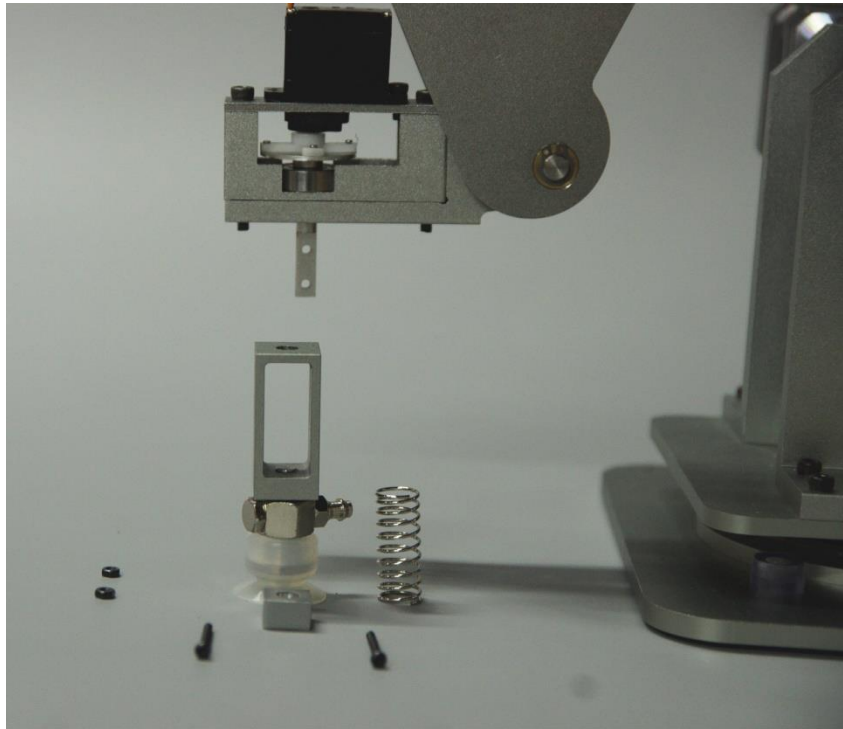

Figure 2.3 Sucker disassembled (2)
4. Pull out the two M2 by 20 bolts. The aluminum housing for the suction cup can now be removed and stored for future applications (Figure 2.3 & 2.4).